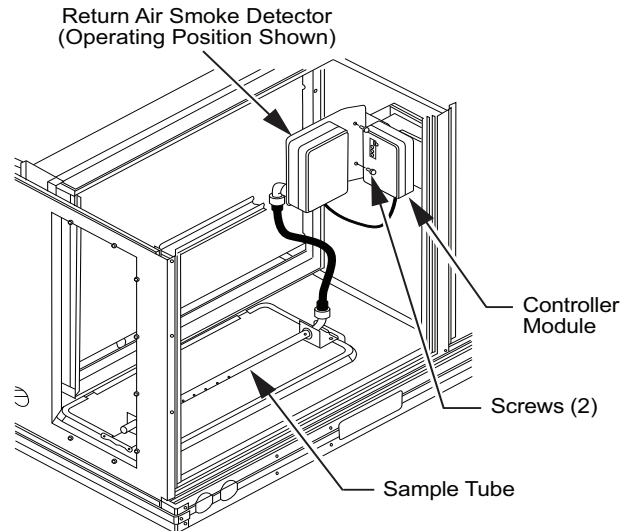

Fig. 45 — Return Air Smoke Detector Operating Position
3. Rotate the detector plate so the sensor is facing outwards and the sampling tube connection is on the bottom. See Fig. 45.